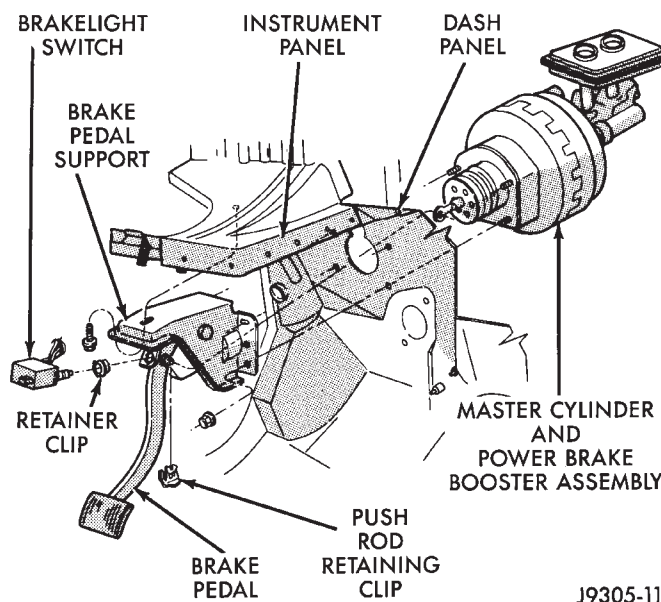

Fig. 1 Power Brake Booster Mounting
- (2) Disconnect battery negative cable.
- (3) Disconnect harness wire connectors from pedal travel sensor and brake warning switch on combination valve.
- (4) Remove air cleaner and hoses.
- (5) Remove windshield washer reservoir.
- (6) Position small drain pan under master cylinder reservoir hoses. Pan is needed to catch fluid when hoses are disconnected.
- (7) Remove clamps that secure reservoir hoses to HCU pipes. Then remove hoses from pipes. Be sure to keep hoses over drain pan until fluid has stopped flowing.
- (8) Remove nuts attaching master cylinder to booster mounting studs. Then remove master cylinder and combination valve as assembly. Slide cylinder forward and off booster mounting studs.
- (9) Disconnect vacuum hose at booster check valve.
- (10) Working inside vehicle, disconnect booster push rod from brake pedal. Slide retainer clip off pedal stud and slide push rod off stud.
- (11) Remove nuts attaching booster to passenger compartment side of dash panel (Fig. 1).
- (12) Slide booster forward out of dash panel. Tilt booster upward and remove it from engine compartment.
(4) Install sensor retaining ring on booster flange. Be sure retaining ring is firmly seated.
(5) Insert sensor into booster. Be sure sensor is fully seated and engaged in retaining ring.
(6) Position booster on dash panel. Align booster mounting studs with holes in panel and seat booster.
(7) In passenger compartment, install booster attaching nuts on mounting studs. Tighten attaching nuts to 41 N•m (30 ft. lbs.) torque.
(8) Connect booster push rod to brake pedal (Fig. 1).
(9) In engine compartment, install seal on master cylinder. Seal is slight interference fit to help hold it in place.
(10) Attach vacuum hose to booster check valve.